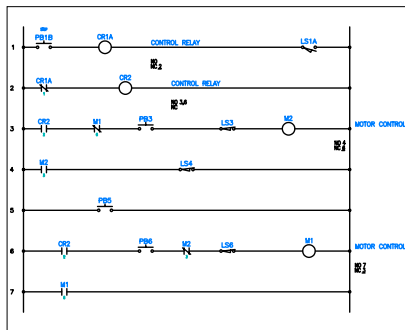

Figure 6-49 The ladder after hiding attributes
- Press ENTER to exit the command. Figure 6-49 shows the ladder and component with hidden attributes.